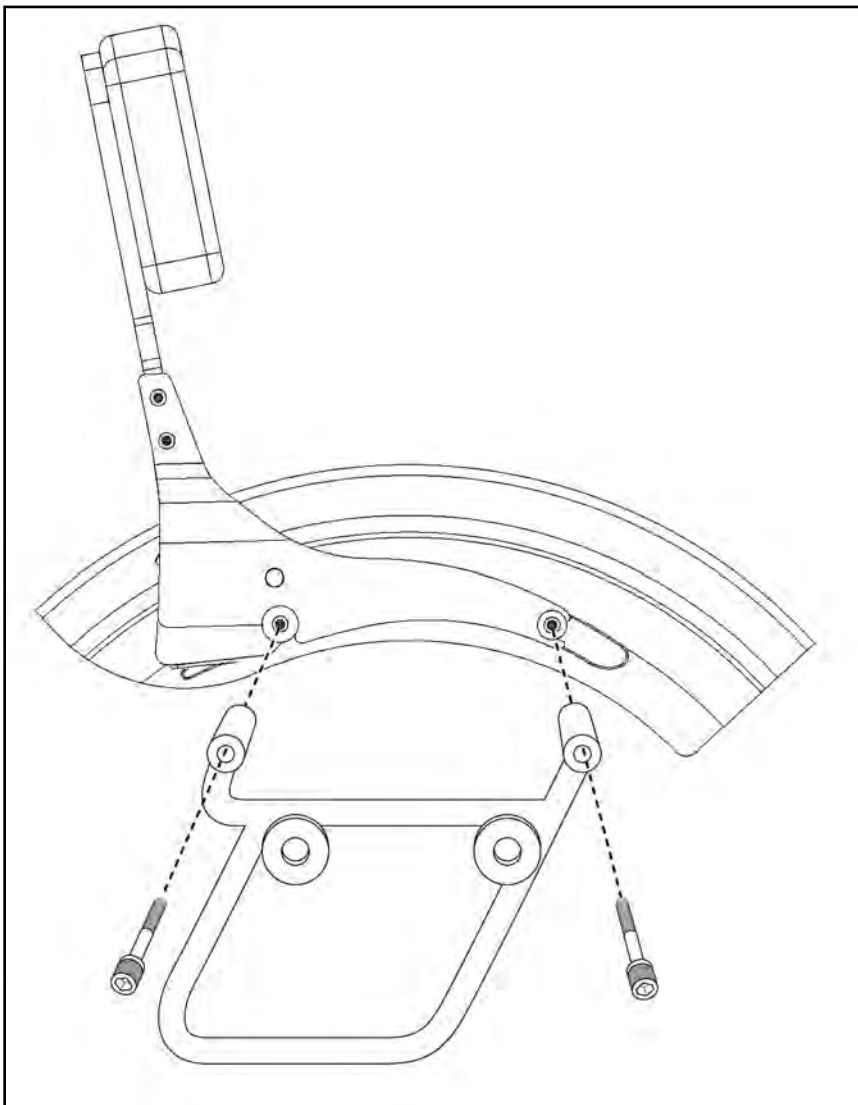

Figure 5
2. Remove the M8 x 60 Screw from the *Rear Spool* on one side. Loosely mount rear section of Saddlebag Frame Bracket with an M8-1.25 x 75 Stainless Screw from BAG#884. Repeat this procedure for the Front Spool. **Figure 5**